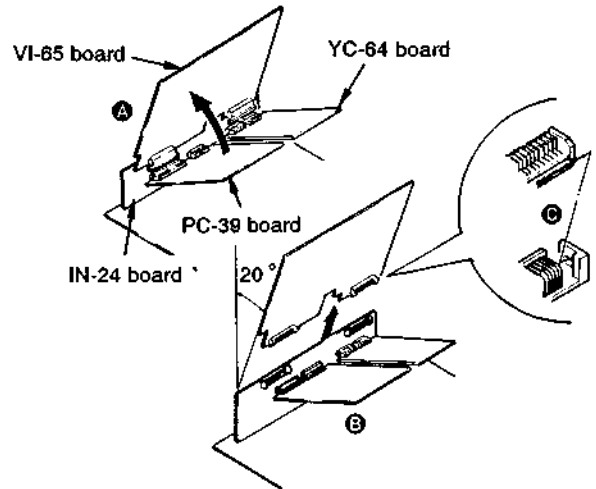

Fig. 3-3.
- 1) Stand the VI-65 board as shown in Fig. 3-3. (A).
- 2) As shown in Fig. 3-3. (B), pull out the VI-65 board at a 20° angle from the IN-24 board.
- 4) To reinstall the board, align the connectors as shown in Fig. 3-3. (C), then insert the board.